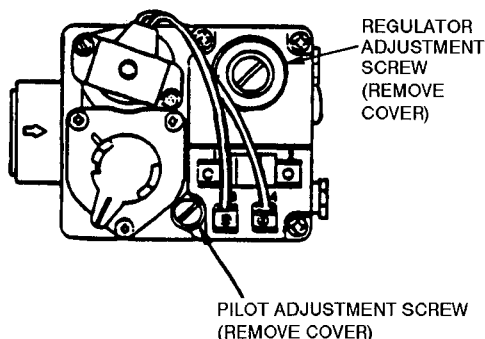

Fig. 37 — Gas Valve
2. Remove screw cap cover on pilot gas valve to expose adjusting screw (See Fig. 37).
6. Remove screw cap covering regulator adjustment screw (See Fig. 37).